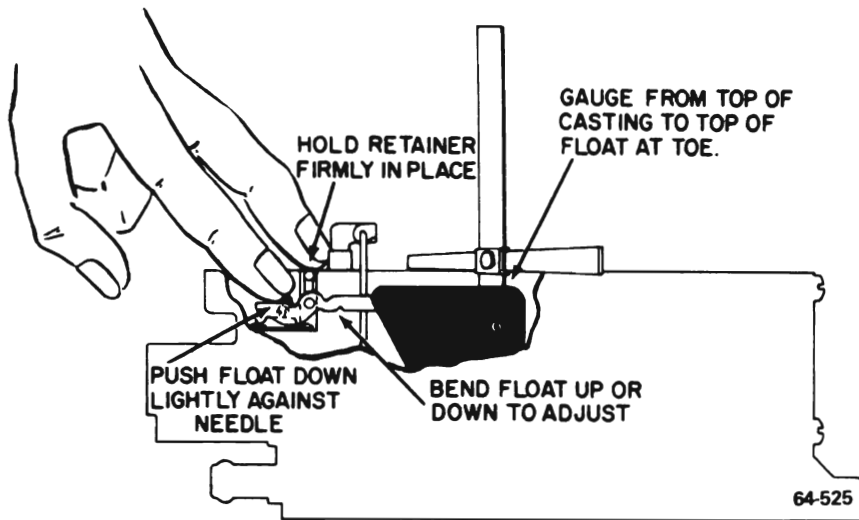

Figure 64-38 - Float Level Adjustment
a. With adjustable T-scale measure from top of float bowl gasket surface (gasket removed) to top of float at toe (locate gaging point 1/16" back from radius at toe). See Figure 64-38.